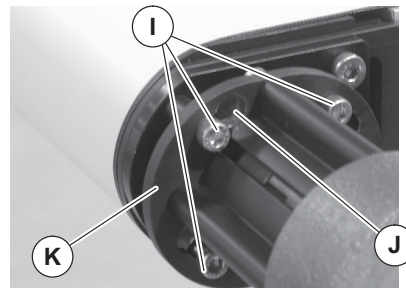

Figure 5
4. Slide mounting screws (Figure 5, item I) through slots (J) in gearmotor bracket (K) and rotate gearmotor assembly into desired position.